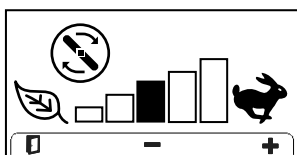

Figure 27
- **Blade-speed screen (Figure 27):** Press the button to access this screen and press to adjust the cutting-unit blade speed. This screen can only be accessed when Smart Power is disengaged.